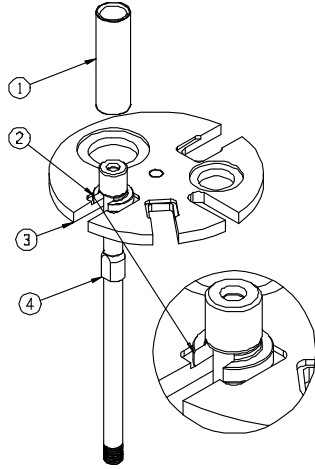

Figure 12-7 Inserting Valve Sleeve onto Valve Bushing
4. Place the Valve Bushing Press Tool with small end facing up on the Press Plate Assembly as shown in Figure 12-7.